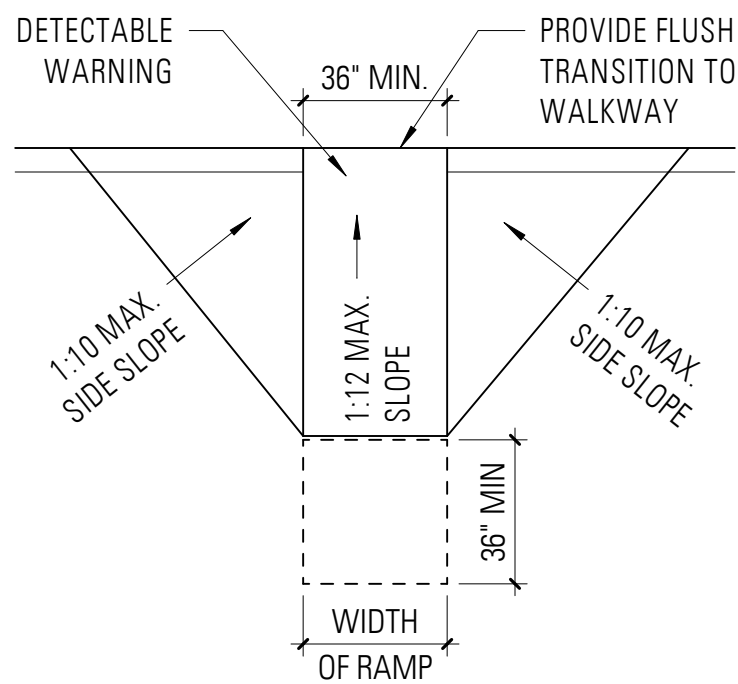

FIGURE 406
ICC 406 - SLOPE (REFERENCE FIGURE 406)
- A. SLOPES OF CURB RAMPS SHALL COMPLY WITH FIGURE 406.